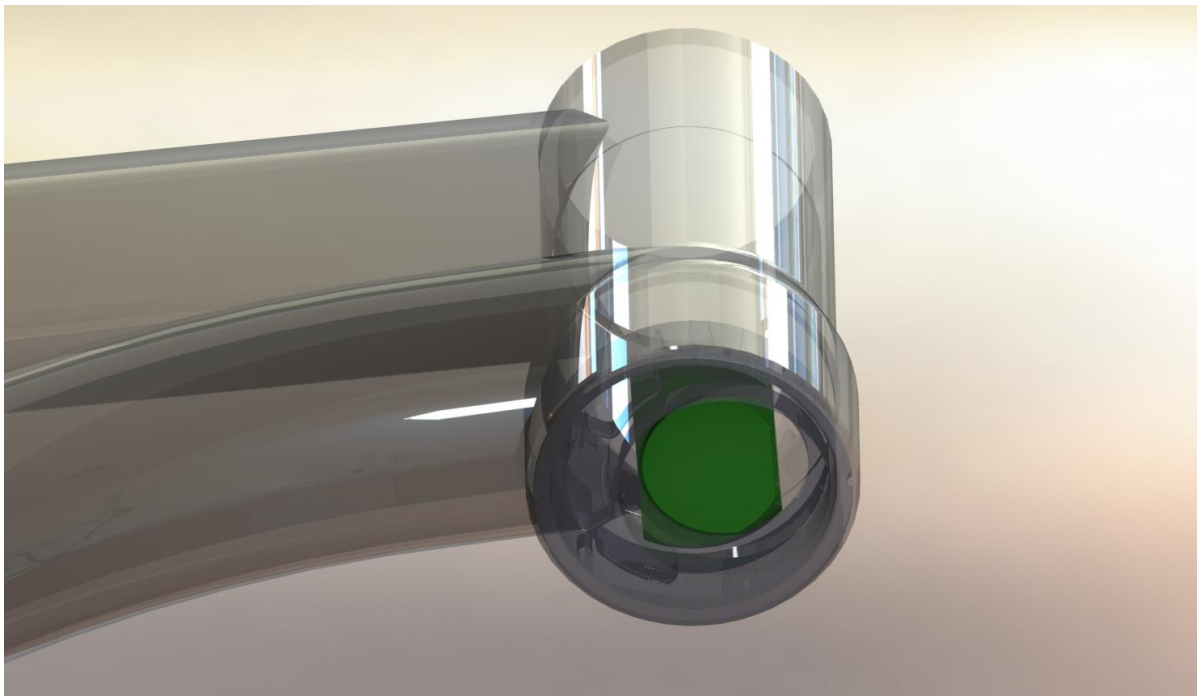

Fig. 3
- The bigger diameter must be aligned coaxially with the headtube / outside diameter of the reachset cup. See figure 3 for reference.